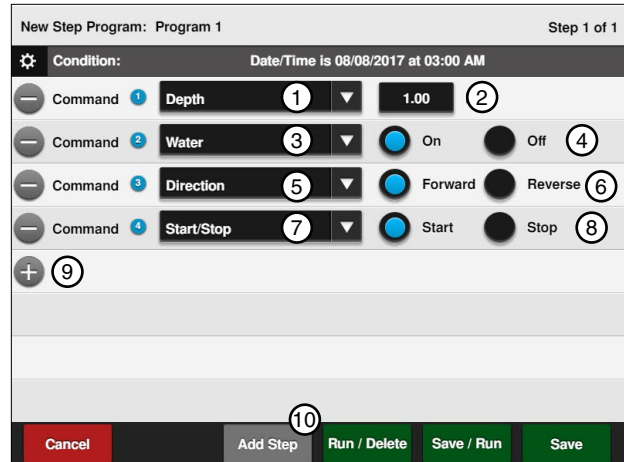

Figure 122-1 1. Depth Command 6. Forward
9. Enter the commands to be executed at that time. Refer to Figures 122-1.